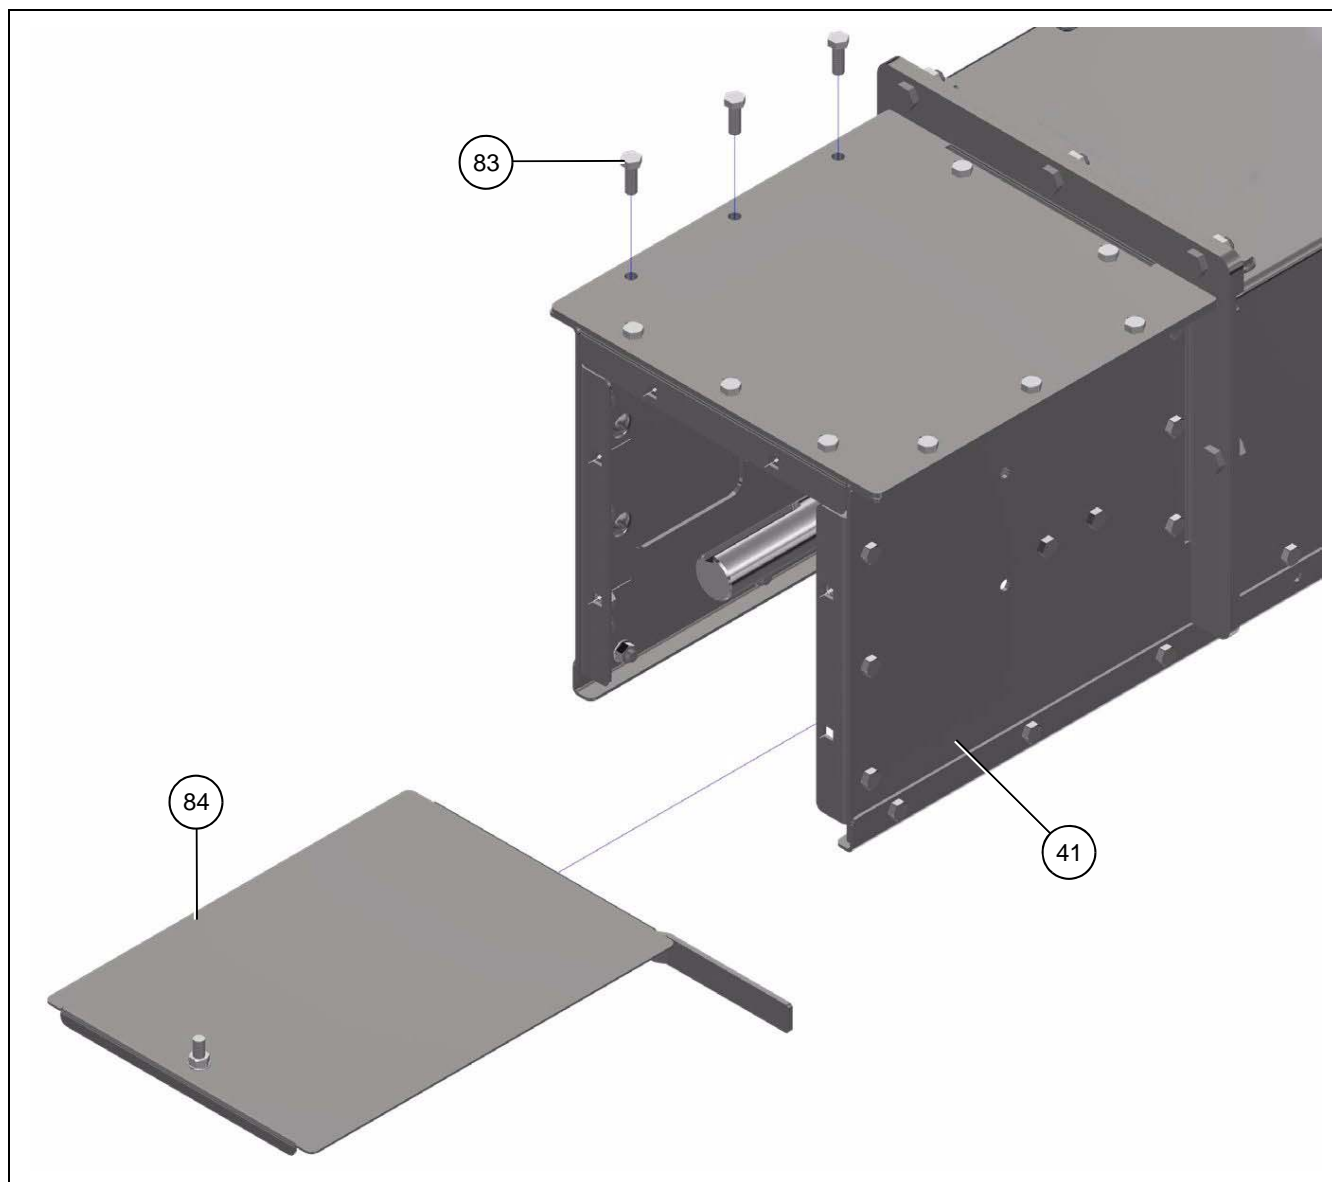

Figure 4AU
1. Slide the discharge gate assembly (84) onto the powerhead in the orientation as shown in Figure 4AU.
2. Remove the three bolts and nuts (83) shown along one edge of the powerhead (41) in the preparation for installation of the motor plate assembly.